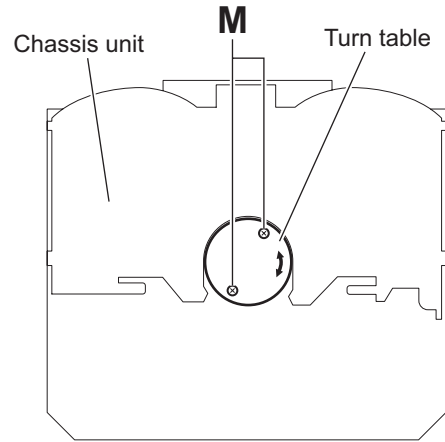

Fig.27
3.1.20 Removing the spindle motor assembly (See Figs.27 and 28)
- From the top side of the chassis unit, turn the turn table from side to side and remove the two screws **M** attaching the spindle motor assembly through the hole of the turn table. (See Fig.27.)